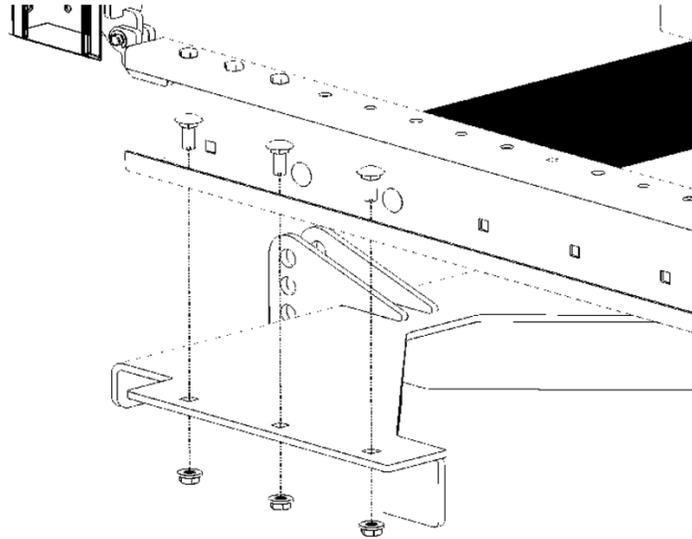

Figure 7: RLVDCG Installation-3
5. This step will require two people. While the gate is still being held vertically, fasten the bottom plate using the 3/8\"-16 hardware that came with the ship loose kit to the bottom of the conveyor. (See Figure 7)